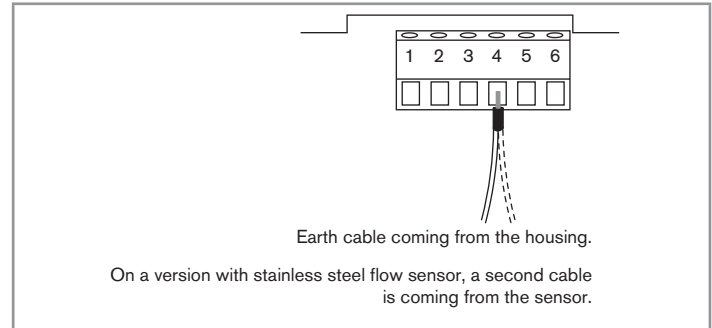

Fig. 15 : Connection of the earth wire coming from the housing (made in the factory)
- Make sure the earth cable coming from the housing and, on a version with stainless steel sensor, the cable coming from the flow sensor, are connected as shown in Fig. 15, chap. 7.5.2.
PE: functional earth, wired in the factory (see Fig. 15)